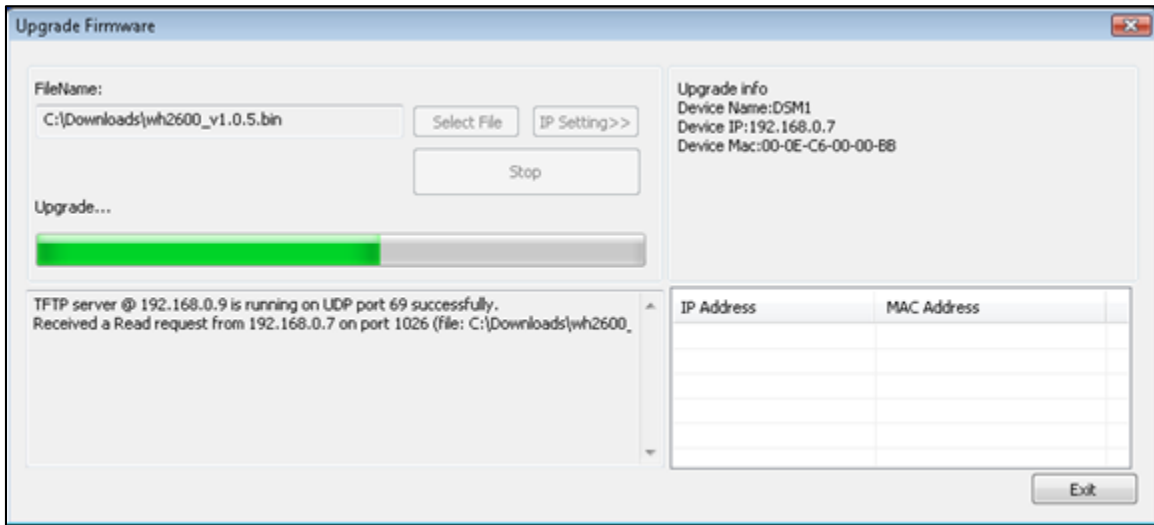

Figure 29
5. Select the **Upgrade Firmware** button. Reference Figure 29. The dialog box will display **Received a Read Request** from the WeatherSleuth® module. A green progress bar will provide you with the upgrade status.